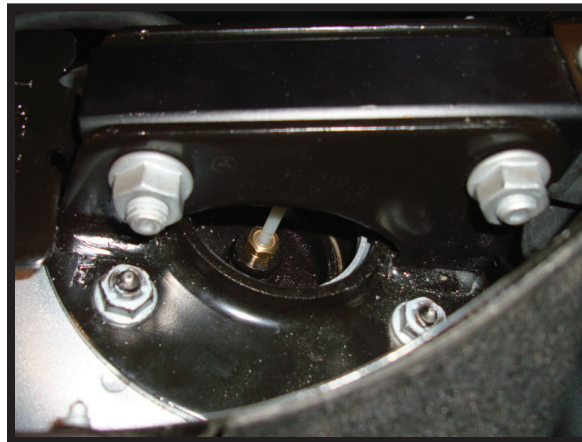

FIGURE 6
9. DISCONNECT THE AIRLINE AT THE TOP OF THE STRUT. (FIGURE 6)